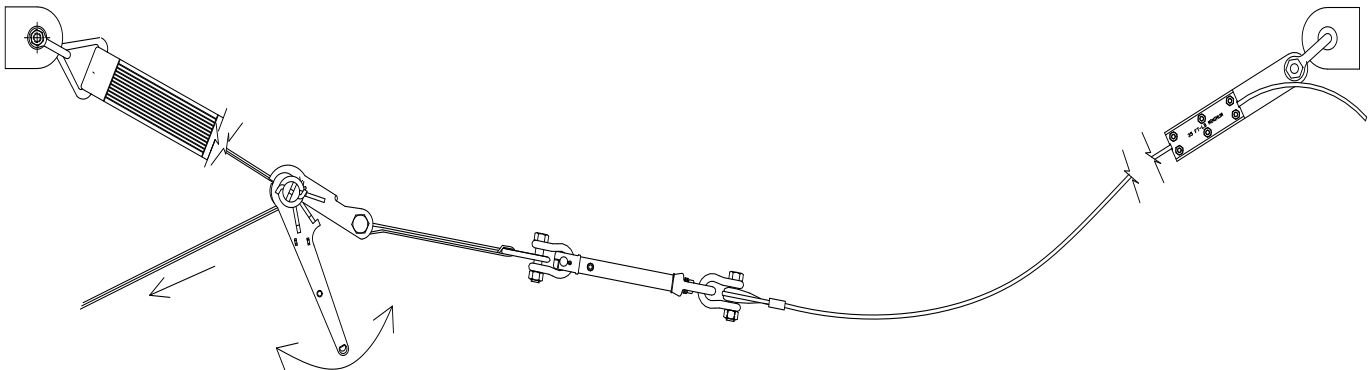

Figure 4
16. Begin lifting the horizontal lifeline cable assembly to its intended position (see Figure 4). If bypass stanchions are being used, the cable must be placed through the center of the bypass fittings before the cable is properly tensioned. Pass the free end of the ratchet strap into the slot of the ratchet. Pull the free end of the ratchet strap to help remove slack from the lifeline cable.